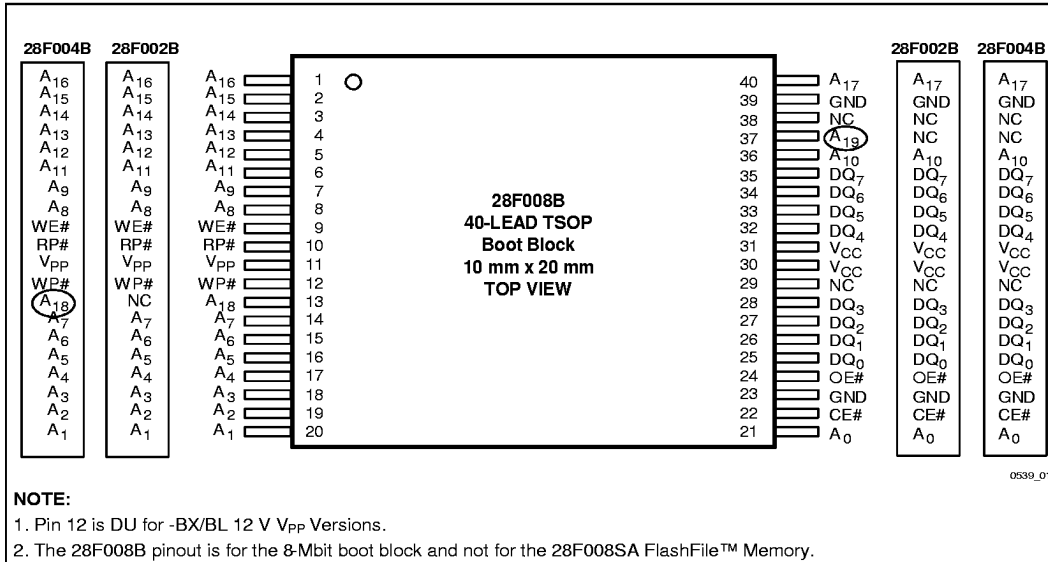
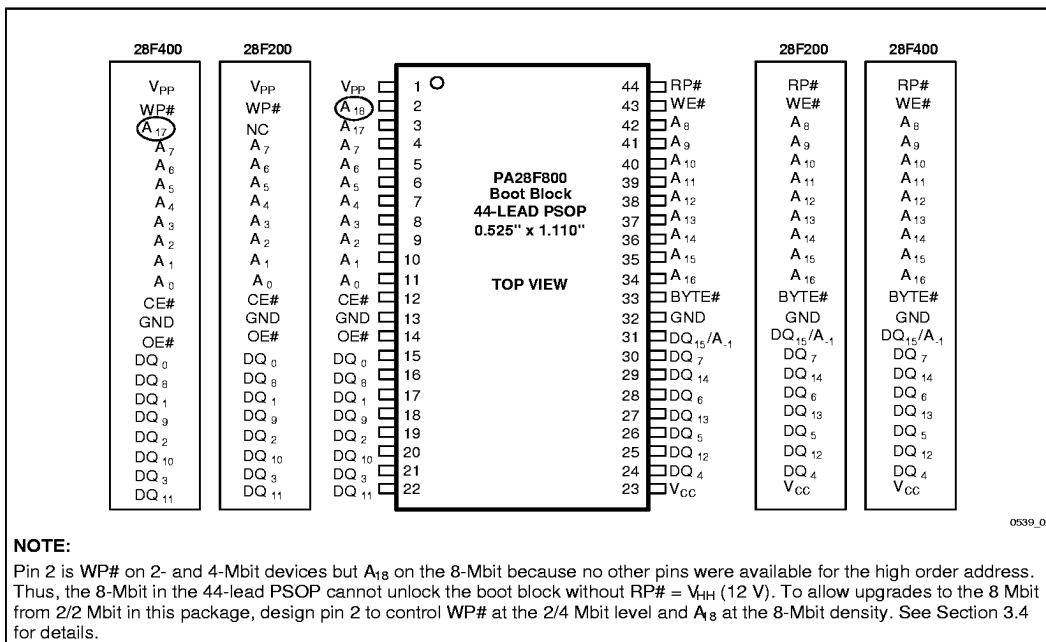
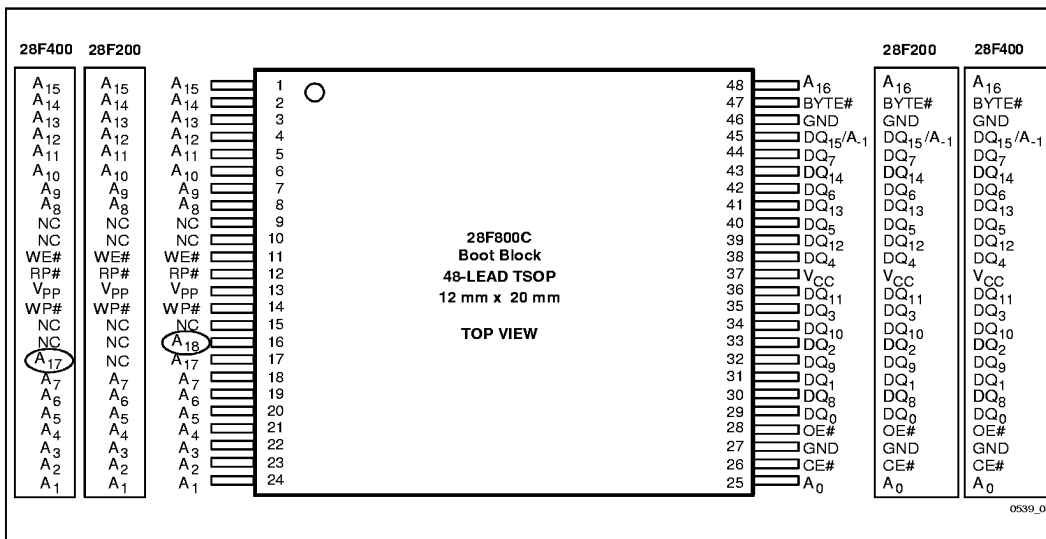

Figure 1. The 40-Lead TSOP Offers the Smallest Form Factor for Space-Constrained Applications
Figure 2. The 44-Lead PSOP Offers a Convenient Upgrade from JEDEC ROM Standards
Figure 3. The 48-Lead TSOP Offers the Smallest Form Factor for x16 Operation
- WP# pin has replaced DU (Don't Use) pin #12 in the 40-lead TSOP package. In the 44-lead PSOP, DU pin #2 is replaced with A₁₈ (see Figure 1 and Section 3.4 for details). Connect the WP# pin to control signal or to V_{CC} or GND (in this case, a logic-level signal can be placed on DU pin #12 for 40-lead TSOP). See Tables 2 and 9 to see how the WP# pin works.
To upgrade from lower density SmartVoltage boot block products, the similar pinouts in the 40-lead and 48-lead TSOP packages provide easy upgrades by adding extra address lines (see Figures 1 and 3). In the 44-lead TSOP, the WP# pin on the 2-Mbit and 4-Mbit BV parts becomes A₁₈, removing the capability to unlock the boot block with a logic-level signal in this package **only**. The boot block can still be unlocked with 12 V on RP# (see Figure 2 and Section 3.4 for details).
The 28F800 products are available in the 44-lead PSOP (Plastic Small Outline) package (a ROM/EPROM-compatible pinout) and the 48-lead TSOP (Thin Small Outline, 1.2 mm thick) package as shown in Figures 2, and 3, respectively. The 28F800 is not available in 56-lead TSOP. The 28F008B products are available in the 40-lead TSOP package as shown in Figure 1.
The 28F008B 40-lead TSOP pinout for space-constrained designs is shown in Figure 1. For designs that require x16 operation but have space concerns, refer to the 48-lead pinout in Figure 3. The 28F800 44-lead PSOP pinout follows the industry-standard ROM/EPROM pinout, as shown in Figure 2.